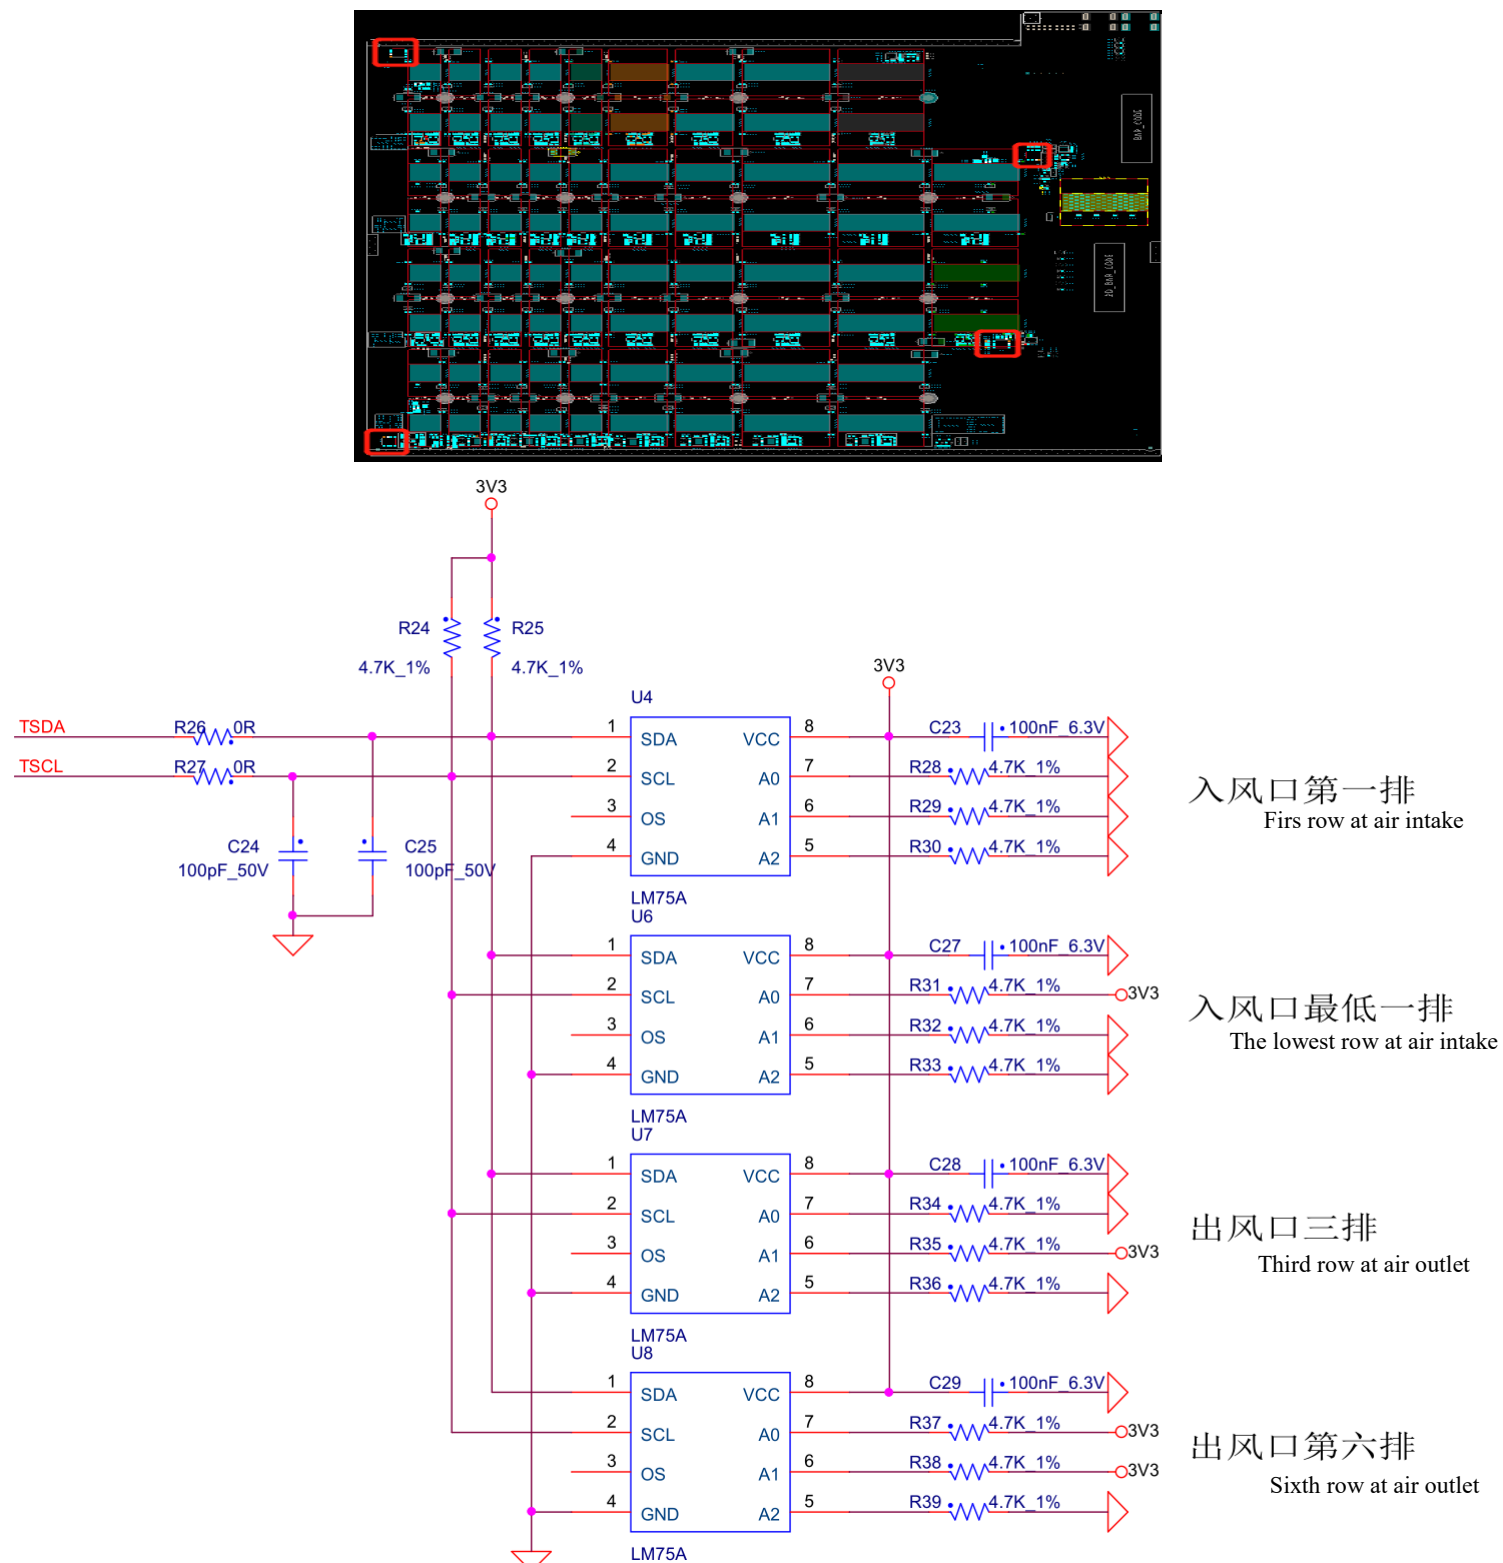

Figure 5-14
B) Check whether the four temperature senses U4, R28~R30, U6, R31~R33, U7, R34~R36, U8, R37~R39 and the matching resistance welding are abnormal, the location of the temperature sense is shown in Figure 5-14, the temperature sense is all located on the back of the PCB, the resistance is located on the front and back of the PCB, and whether the temperature-sensitive 3.3V power supply is normal; Check the welding quality of the heat-sensitive chip and the small heat sink. The deformation of the large heat sink material will cause poor heat dissipation of the chip and affect the temperature difference.